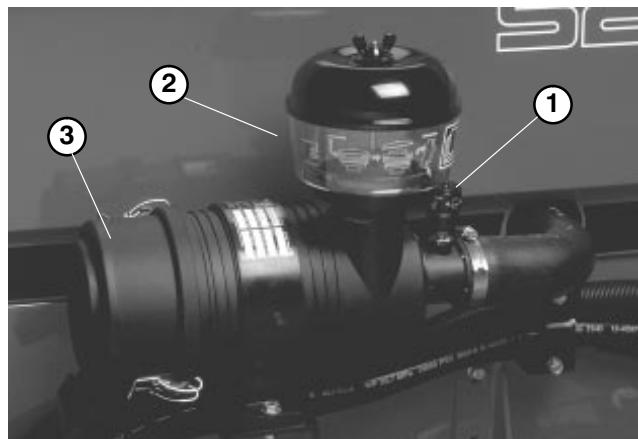

Figure 47
2. Service the air cleaner filters when ever air cleaner indicator (Fig. 47) shows red or every 400 hours (more frequently in extreme dusty or dirty conditions). Do not over service air filter.
SERVICING PRECLEANER BOWL (Fig. 47)
- Reset indicator (Fig. 47) if showing red.